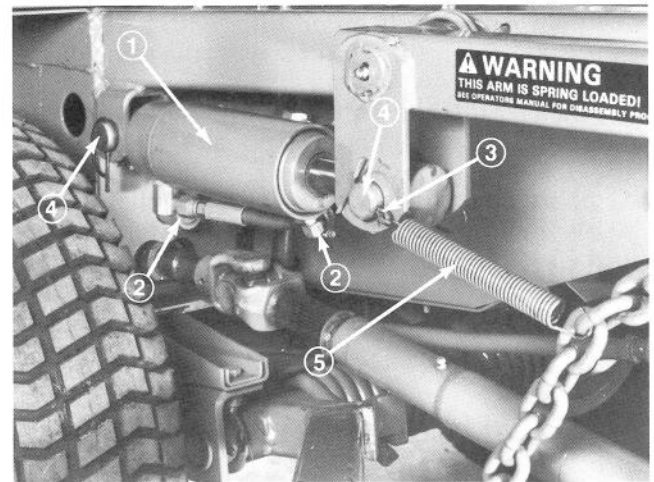

Figure 77
2. Remove hoses from lift cylinder (Fig. 77) and cap the hoses to prevent contamination.
3. Remove hair pin cotters and spring from cotter pin. Remove pins and slide cylinder from between the lift arm and the stationary mounting bracket (Fig. 77).
4. Install new cylinder with pins, and assure the cotter pin (Fig. 77) securing moveable end of cylinder is to the outside. Hook chain tension spring through eye of cotter pin.